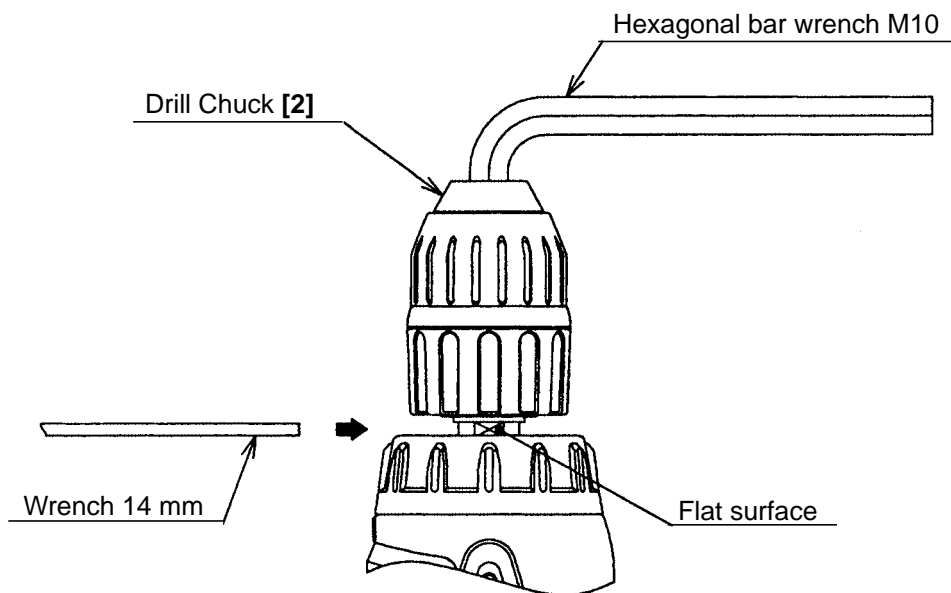

Fig. 4
##### (1) Removal of the Drill Chuck **[2]** (See Fig. 4.)
- (b) Fix the hexagonal bar wrench M10 into the Drill Chuck **[2]** as indicated in Fig.4. Next, apply a Wrench 14 mm (Special repair tool, Code No. 873929) to the flat surfaces on the spindle to hold it steady, and remove it by turning counterclockwise. If it is difficult to loosen, use a pipe extension or similar tool.